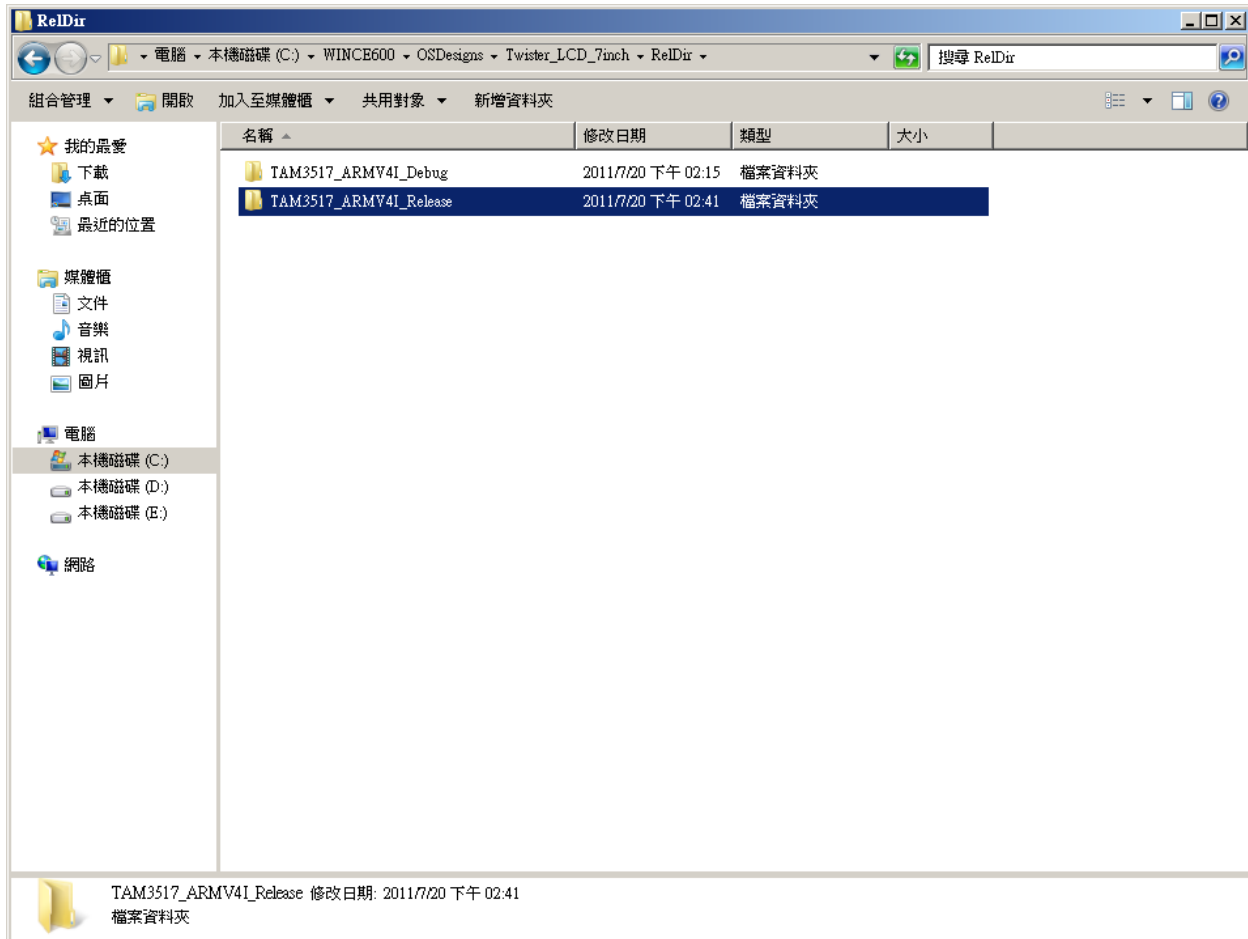

Figure 81
- Go to C:\WINCE600\OSDesigns\Twister_LCD_7inch” and open the folder “TAM_3517_ARMV4I_release” (See Figure 81). The folder contains files named: MLO, EBOOTSD.nb0, NK.bin